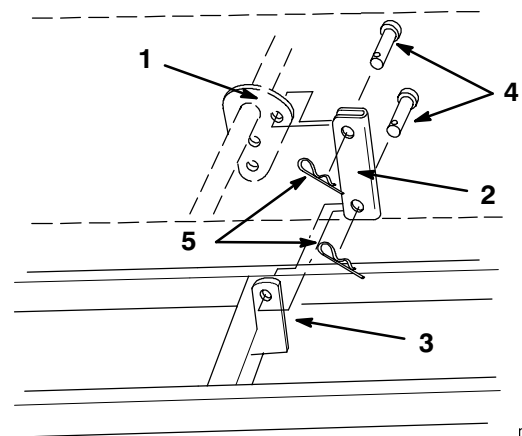

Figure 16
- Use the two-hole lift link and two 3/8 x 1 in. (25 mm) clevis pins if you will be using the blade on smooth or loose surfaces (Fig. 16).